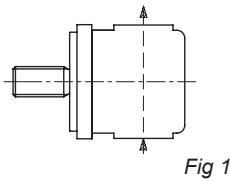

Fig 1
- Inlet port position - see fig 1